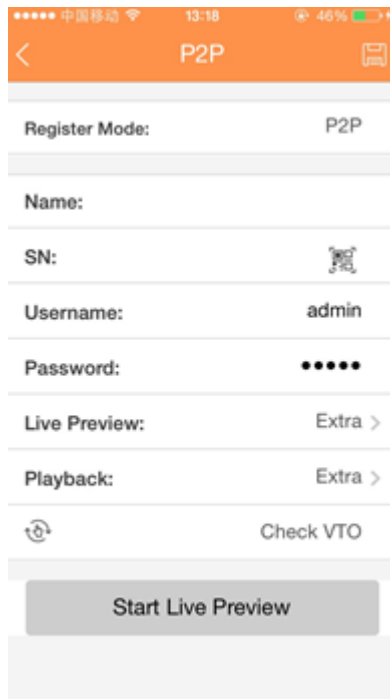

Figure 4-186
3. Tap Device manager button, you can use several modes (P2P/DDNS/IP and etc.) to add the device. Click  to save current setup. Tap Start Live preview to view all-channel video from the connected device. See Figure 4-186.